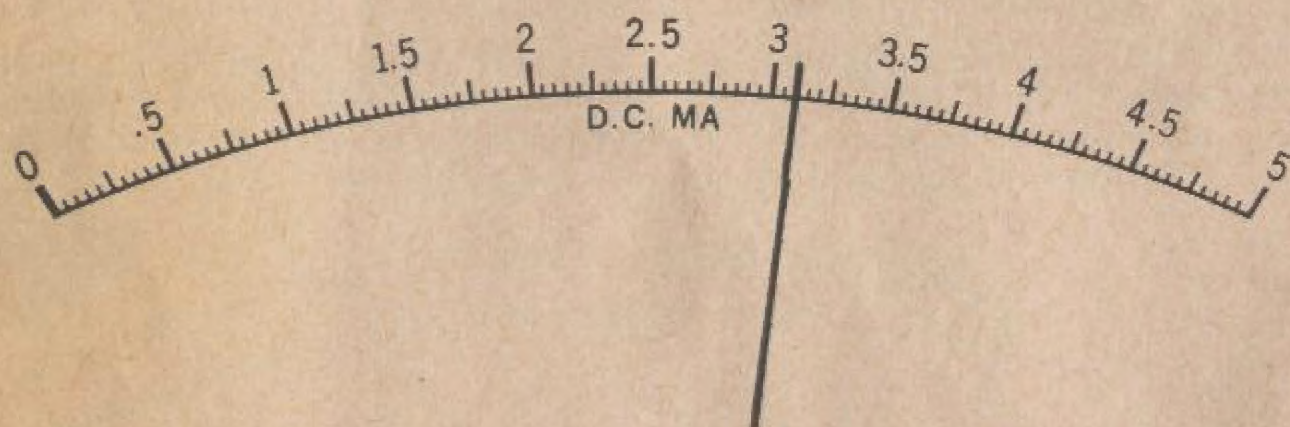

Figure 22—5 MA D.C. Scale
2. The next range is the 0-5 milliampere range. Each small division on this scale represents .05 MA. If the pointer came to rest as shown in Fig. 22, the meter would indicate that 3.1 MA of current is flowing in the circuit.